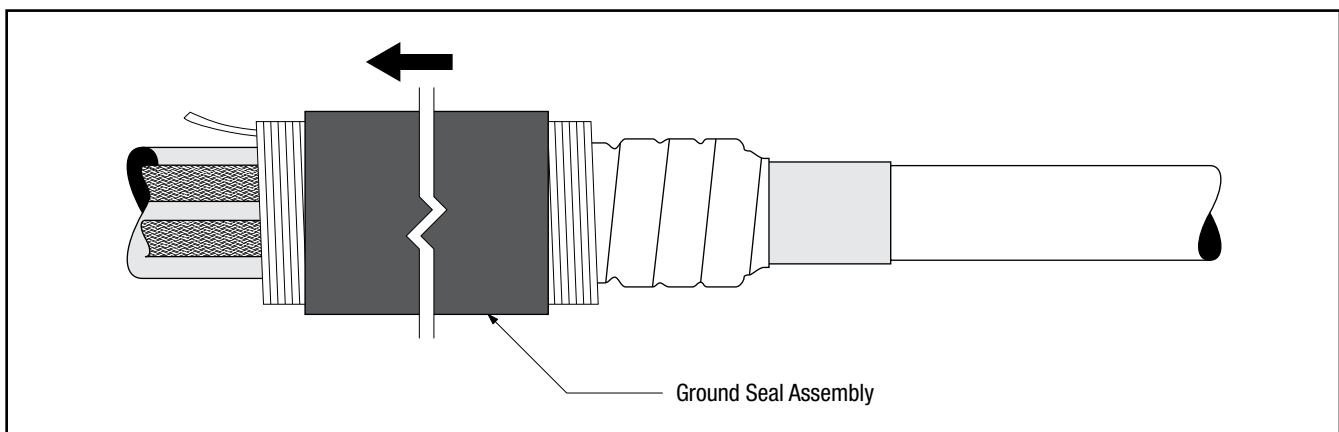

Figure 10
- 4.1 Slide the large dark grey ground seal assembly onto the cable jacket, loose core end first. (Figure 10)